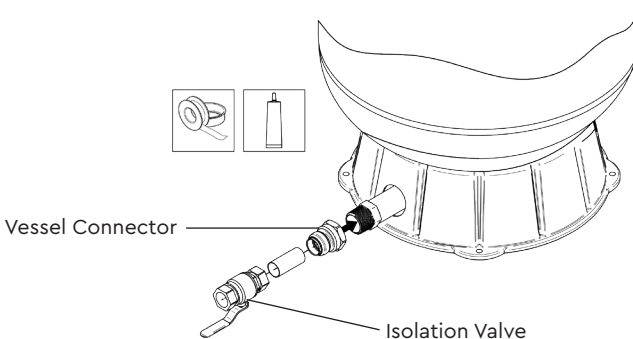

Fig. 8
- a) Screw the Mainsboost vessel connector provided in the upstream line-in kit on to the tank inlet pipe at the base using suitable thread seal such as PTFE tape or liquid thread lock (see Fig. 8).